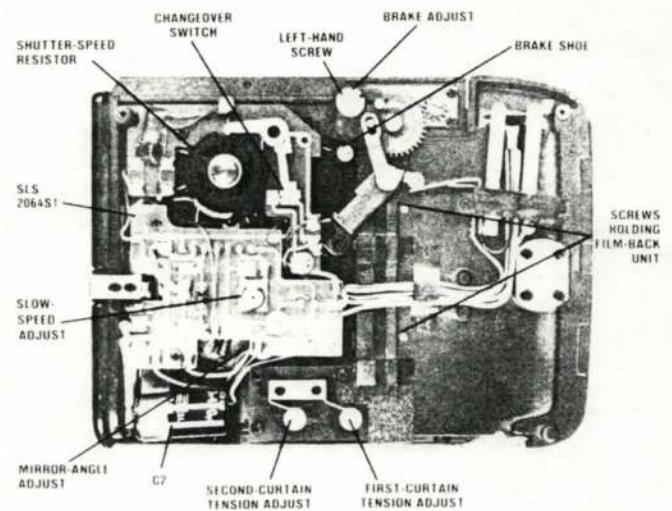
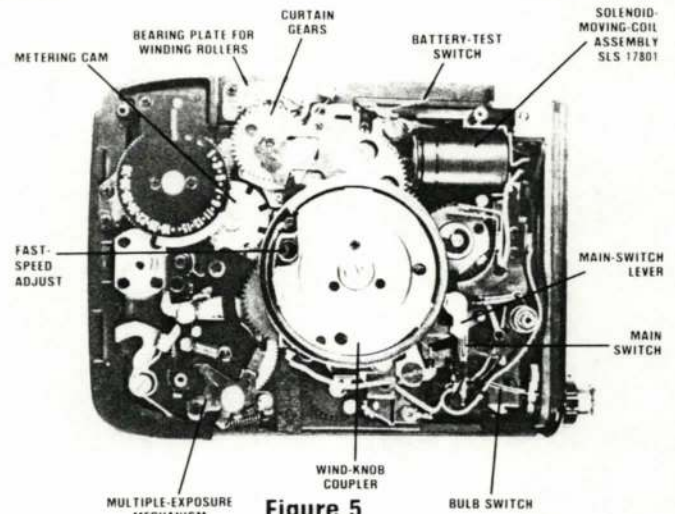
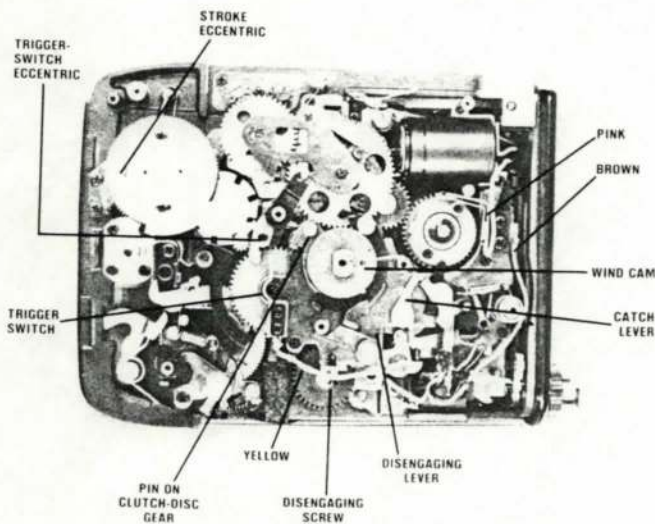

Figure 4
Figure 5
Figure 6
Consequently, you may have to set the curtain-travel times by applying the "normal" amount of initial tension to each take-up roller (Fig. 4), 4 turns on the first curtain and 2 turns on the second curtain. Then fine-tune the tension settings by eliminating the top-to-bottom variation at the fast speed.
But the M645 doesn't use the typical electromagnet to hold back the second curtain. Rather, the second-curtain latch mechanically holds the second curtain for the length of the exposure. Now the circuit draws current only to charge the timing capacitor C1 (on the back side of the circuit board (Fig. 4).
When the timing capacitor reaches the trigger voltage, the release capacitor C2 (Fig. 4), discharges through the coil of a solenoid (Fig. 5). The solenoid then repels its plunger, and the plunger kicks the second-curtain latch out of engagement with the second-curtain gear. At the end of the exposure, the current draw briefly increases to around 6ma as the circuit recharges C2 to 6V.
You can follow most of the operation with the wind-knob side of the camera removed (Fig. 5). When the mirror releases, the mirror-raising crank gear strikes a lever which closes the main switch. A catch lever then engages the main-switch lever, keeping the main switch closed for the full exposure.
2. lift off wind cam (Fig. 6)
3. remove the disengaging lever (Fig. 6), by disconnecting the spring and taking out the screw
4. remove the C-clip holding the clutch-disc gear (Fig. 6)
8. disconnect catch-lever spring (Fig. 6)
6. remove the four screws, two on each side of the camera. that hold the body unit to the film-back unit (the longer screws go on the speed-knob Fig. 6)
2. note the routing of the yellow wire to the trigger switch (Fig. 6), the routing is critical.
3. seat the clutch-disc gear as shown in Fig. 6. When you turn the clutch-disc gear counter-clockwise to take up the backlash, the brass pin should point to the screw as shown.
4. seat the wind cam with its punch mark pointing to the front of the camera (Fig. 6)
The M645 has two primary shutter-speed adjustments - - the variable resistor on the circuit board (Fig. 4) and the eccentric on the trigger switch (Fig. 6). The variable resistor provides a level adjustment, and the trigger-switch eccentric provides a fast-speed adjustment.
Next adjust the 1-second exposure using the variable resistor (Fig. 4). Finally adjust the fastest speed by turning the trigger-switch eccentric after loosening the lock screw. For a faster speed, adjust the eccentric to make the trigger switch open sooner.
At the end of the wind stroke, the disengaging lever (Fig. 6) pushes the advance pawl (part of the clutch-disc gear) out of engagement - - the disengaging of the advance pawl accounts for the "kick" you can feel at the end of the cocking stroke.
The screw that the disengaging lever comes against (Fig. 6) allows you to adjust the "feel" at the end of the wind stroke. Turning in the screw provides a lighter feel; turning out the screw provides a harder feel. The proper feel is largely